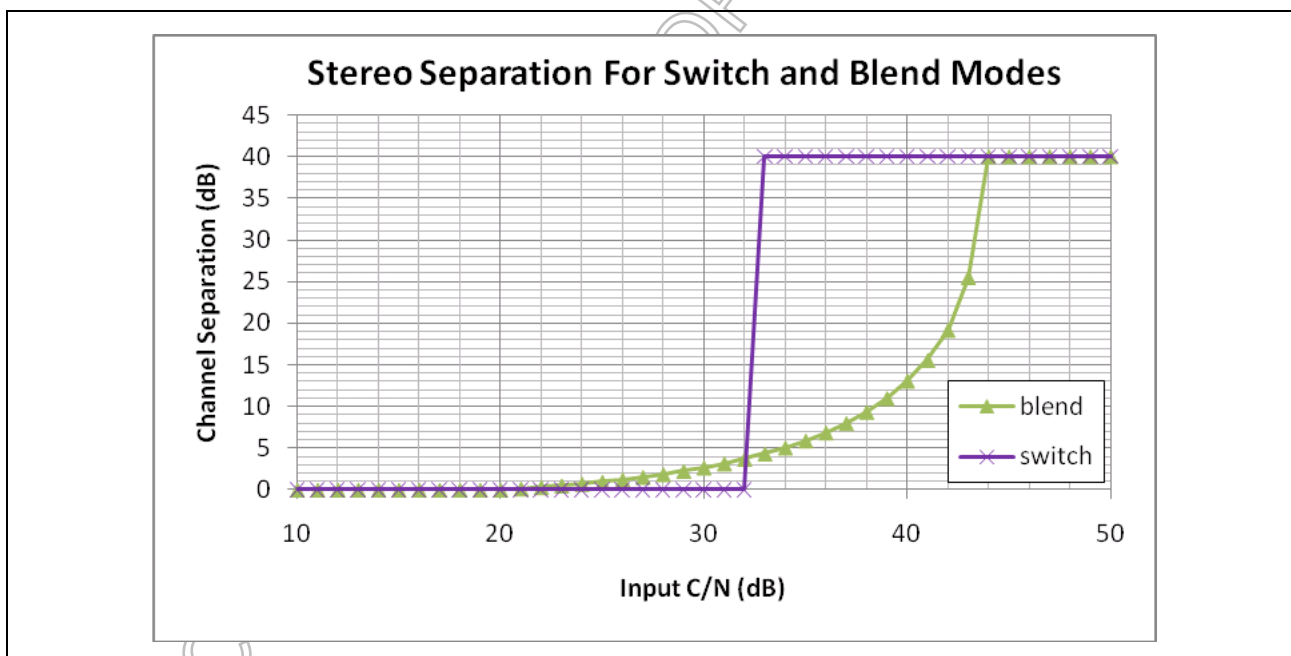

Figure 22: Example Blend/Switch Separation
- **Switch** — In this mode, the audio switches from full stereo to full mono at a predetermined level to maintain optimal audio quality. The stereo-to-mono switch point and the mono-to-stereo switch points are fully programmable to provide the desired amount of audio SNR. In Figure 22, the switch point is programmed to switch to mono to maintain a 40 dB SNR.